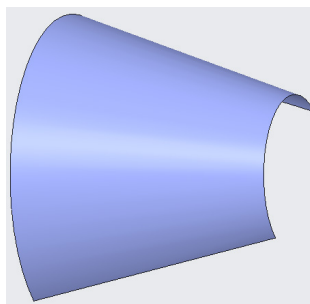

Figure 15-103 Trimetric view of the base feature
8. After drawing the second arc, choose the **OK** button to exit the sketcher environment. Choose the **OK** button from the dashboard to exit it. The model, similar to the one shown in Figure 15-103, is displayed in the drawing area.